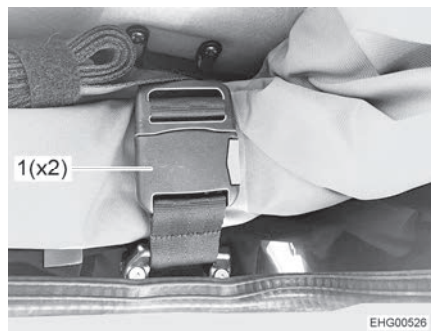

Fig. 45 Belt lock
- Open both belt locks (Fig. 45,1).